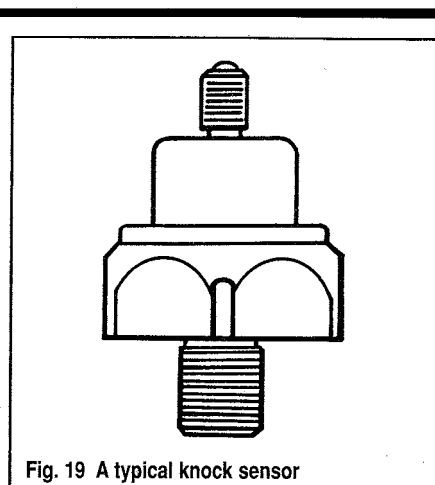

Fig. 19 A typical knock sensor
- See Figures 19 and 20
- ◆ See Figure 19